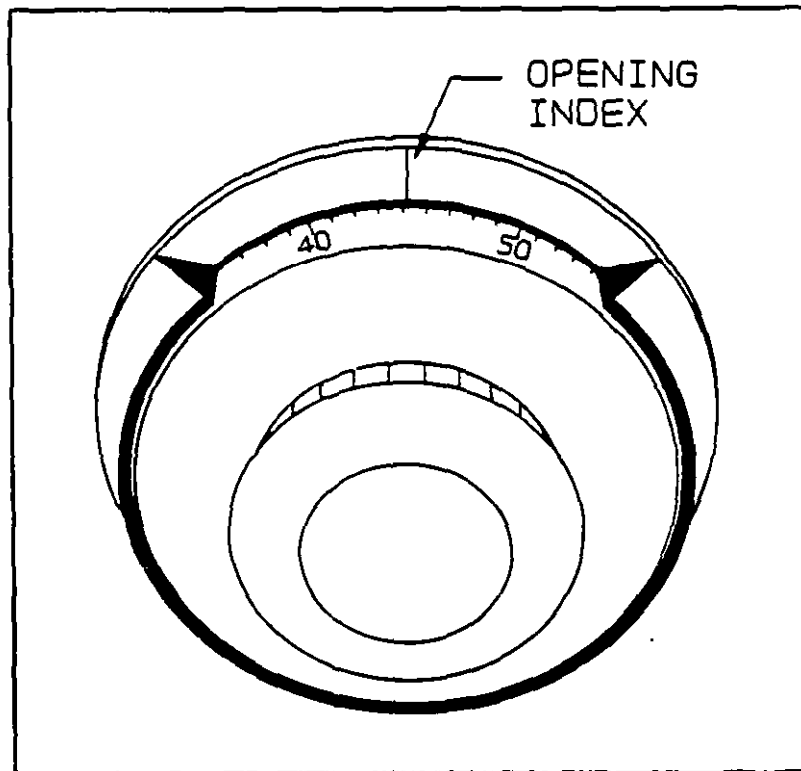

Figure 28
3.5.1 MRK 120. The Mosler MRK 120 is a Group 1 combination lock. It has an index on the face of the lock which is used for both dialing and changing the combination. There is no dial torque adjustment on this lock. Dial resistance is held within the allowable range (MIL-L-15596 Series) by the friction plug and spring. This lock is illustrated in Figures 28 and 29.